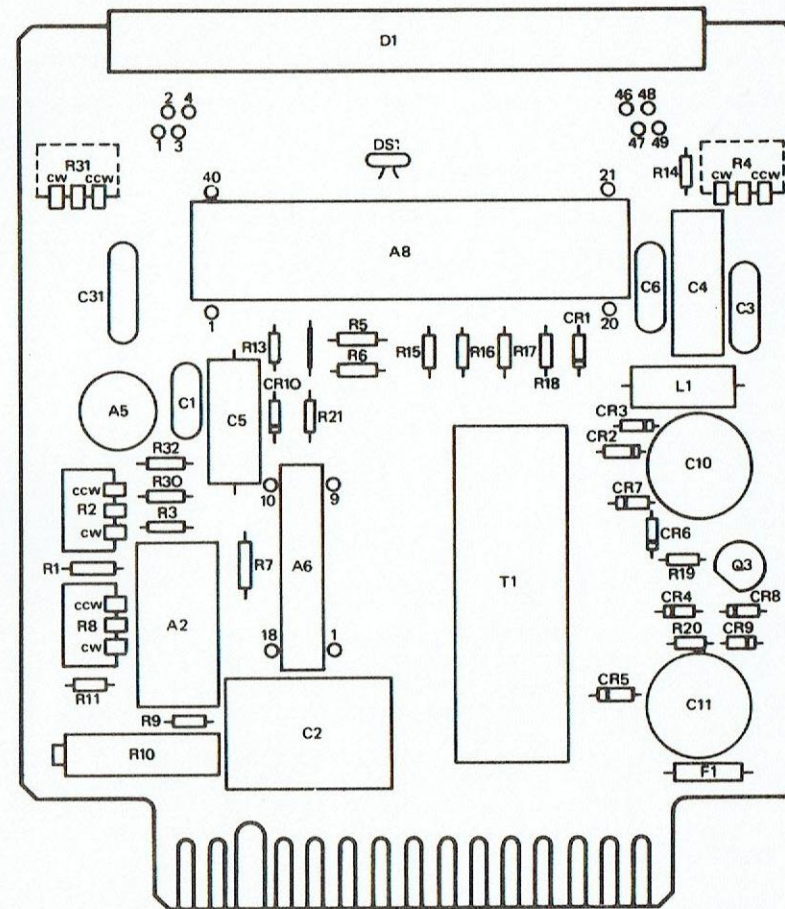

Figure 4-1. TA 305 Parts Location Diagram
4-9. Calibration of the instrument is accomplished on the test bench and should only be performed when the instrument exceeds the specified accuracy or after repairs are made. Calibration will also be required when changing range modules. The test equipment required for calibration (or the equivalent) is specified in Table 4-1. The instrument should be operated on the bench for fifteen minutes to stabilize prior to calibration. Calibration consists of the following adjustments; (1) Input current Zero, (2) Zero Adjustment, (3) Deadzone Adjustment, (4) Plus Calibration, and (5) Minus Calibration. The locations of the adjustments are shown in Figure 4-1.
4-16. Nearly all circuit elements of the instrument are contained within integrated circuits, therefore high reliability and long life are expected. Any failure will usually require replacement of one of the integrated circuits; a process which should be performed at the factory or at a factory-authorized service center. If repair must be attempted, techniques and equipment available in qualified metrology shops can be implemented. Standard troubleshooting techniques and precautions relative to solid state devices and printed circuit boards should be followed. After any repair, calibrate the instrument following the instructions contained in paragraph 4-8. The location of replaceable parts in basic instrument is shown in Figure 4-1. Replacement parts can be procured utilizing the information contained in Section III or by contacting your sales representative.